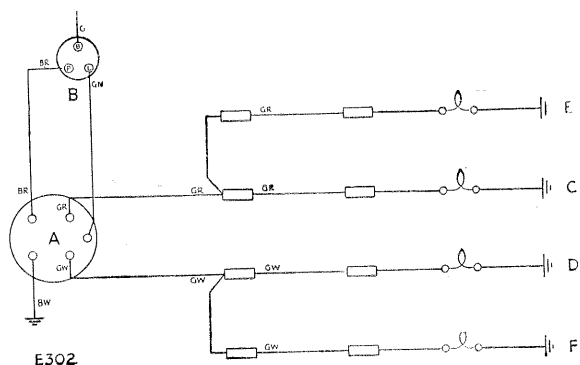

Fig. T-67—Flasher wiring diagram—late type
1. Remove the five screws and lower the instrument panel, drill one hole .189 in. (4.5 mm) dia. (No. 12 drill) in accordance with the dimensions in Fig. T-67 for mounting the flasher unit.
2. Drill one hole  $\frac{3}{4}$  in. (18 mm) dia. in the dash, as shown in Fig. T-67.
the gauge panel, which means that the ventilator control fixing cannot be used and a further  $\frac{3}{8}$  in. (7 mm) hole must be drilled as shown in Fig. T-67.